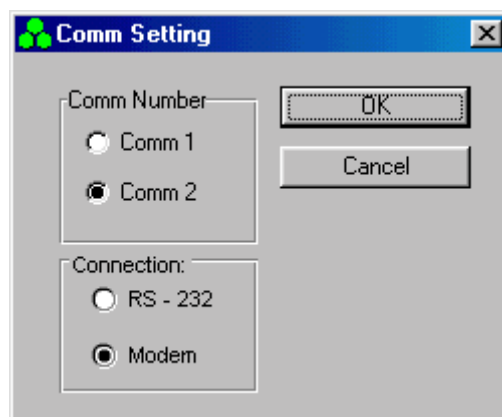

Figure 3-5 Comm setting dialog
2. Click the CommSetting menu. The Comm Setting dialog appears, as shown in Figure 3-5. Comm's appears in that screen are according to the Comm ports available in your computer.